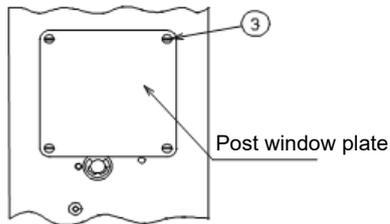

Fig. 15
Loosen the post window plate setscrews ③ (four places) on the counter-operator side of the post and remove the post window plate. (Fig. 15)
Secure the post window plate to the counter-operator side of the post with the setscrews ③ (four places). (Fig. 15)